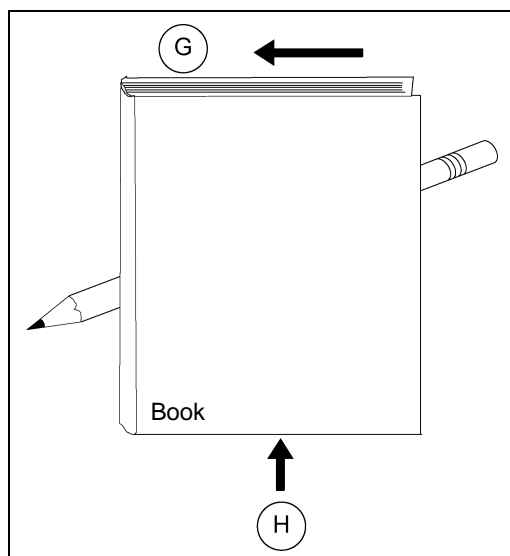

Figure 6Z
8. Tracking adjustment is done while the belt is running and should be spread over some length of the conveyor preceding the region of trouble. The adjustment may not be immediately apparent, so permit the belt to run for several minutes and at least three (3) full belt revolutions after each idler adjustment to determine if additional "tracking" is required.
14. The reader can demonstrate this for himself very simply by laying a small dowel rod or round pencil on a flat surface in a skewed orientation. If a book is now laid across the dowel rod and gently pushed by one's finger in a line directly away from the experimenter, the book will tend to shift to the left or right depending upon which end of that dowel rod the moving book contacts first. (See Figure 6Z.)